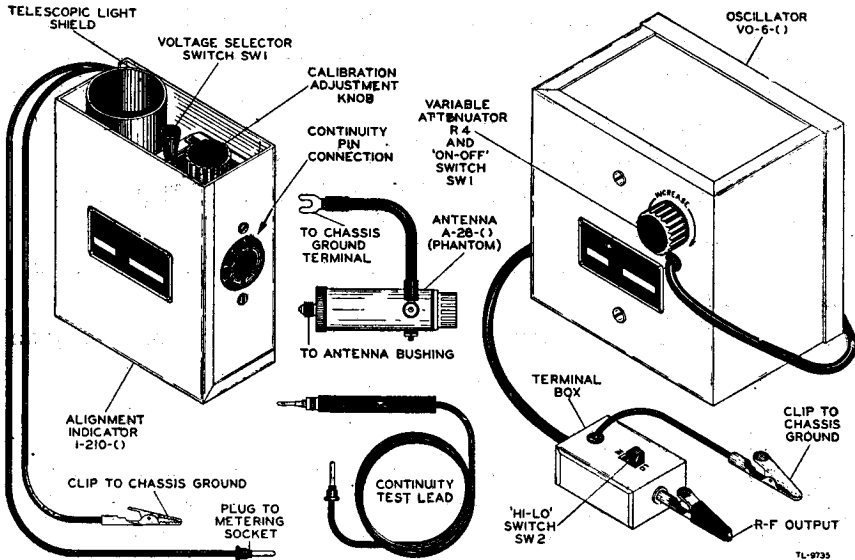

Figure 63. Maintenance Equipment ME-40-(), basic components.
- (1) Analytical and inspection techniques based upon stop-start procedure and equipment performance.
- (2) Instrument test methods based on the use of trouble charts and voltage or resistance measurements.
- (3) Signal tracing or signal substitution methods based on tracing an applied signal through the various stages of the set.
93. Maintenance Equipment (fig. 63)